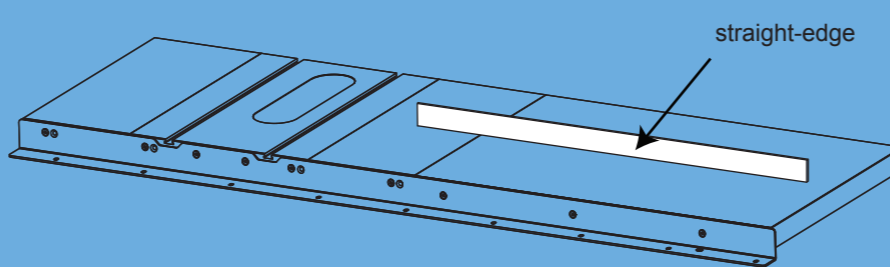

Fig. 15a
• Place the straight-edge lengthwise across the middle of the table (see Fig. 15a) and level the middle of the extension table by turning the screw in the adjustment bracket with a 5 mm hex key (see Fig. 15b).